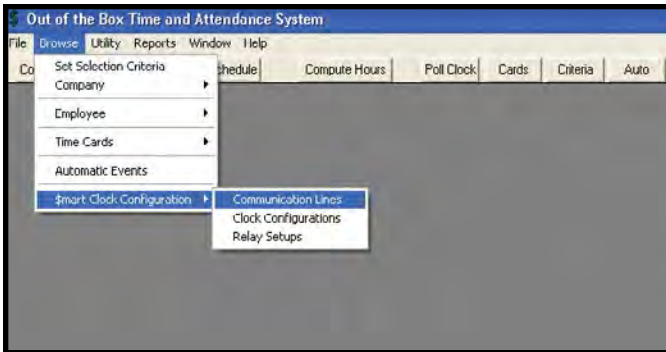

Figure 104. Out-of-the-Box™, Communication Lines
- I. Open the Out-of-the-Box™ program and click “Browse” > “Smart Clock Configuration” > “Communication Lines” (see Figure 104).